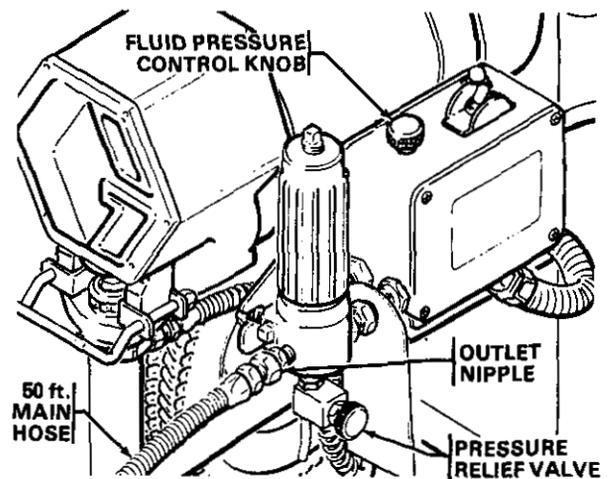

Fig 1
1. **Connect Hose and Gun** (Refer to Fig 1.)
- a. Close the filter's pressure relief valve. See Fig 1.